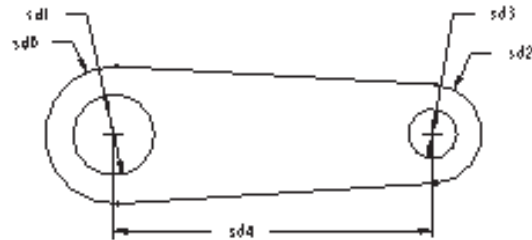

Figure 1-48 Dimensions of the sketch
2. Using the left mouse button, select the left arc and use the middle mouse button to place the dimension as shown in Figure 1-48. The dimension appears as **sd0**.
3. Using the left mouse button, select circle X twice and place the dimension as shown in Figure 1-48. This dimension appears as **sd1**.